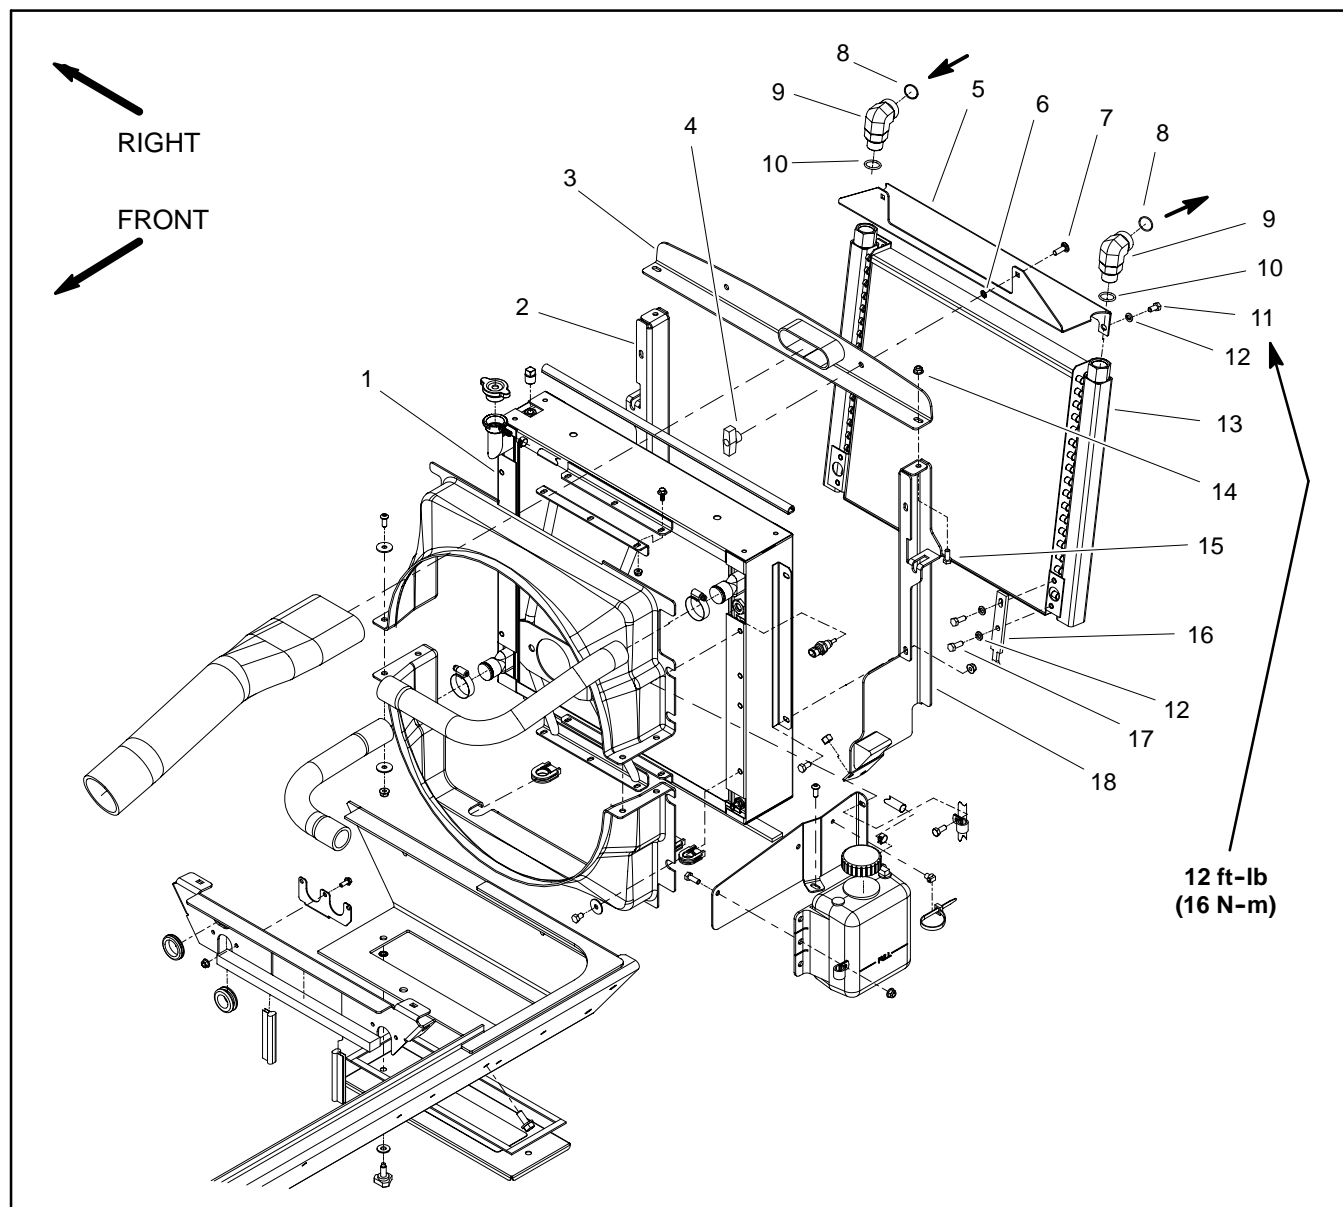

Figure 56
Removal (Fig. 56)
3. Remove oil cooler using Figures 56 as a guide.
Installation (Fig. 56)
1. Install oil cooler using Figure 56 as a guide.